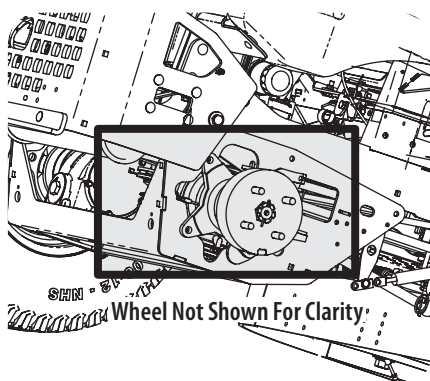

Figure 29
- Clean around and near the transmission, axle and the fan area. See Figure 29.